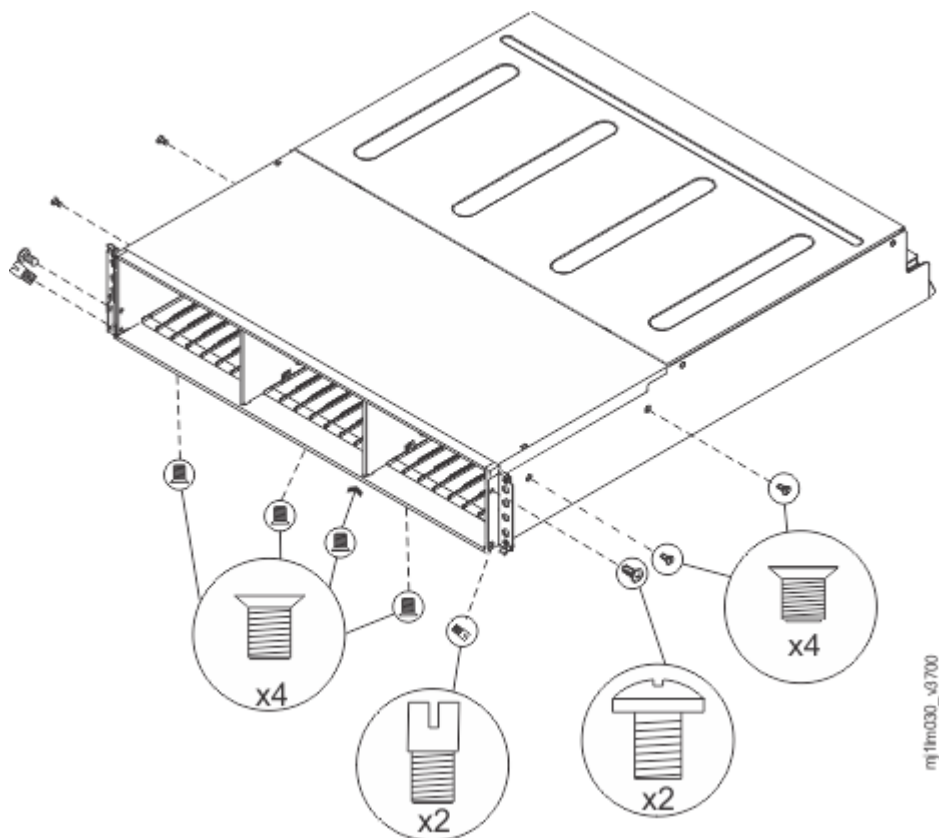

Figure 133. Removing the screws of an expansion enclosure assembly
12. Remove the four screws from the bottom of the enclosure (see Figure 133 on page 170). Remove the three screws that are near the front and the screw that is near the middle. Label these screws to indicate the location from which they are removed and place them aside.
14. Remove the three screws and one screw-pin on the right side that secure the midplane assembly to the enclosure (see Figure 133 on page 170). Label the screws to indicate the location from which they are removed and place them aside.
15. Remove the three screws and one screw-pin on the left side that secure the midplane assembly to the enclosure (see Figure 133 on page 170). Label the screws to indicate the location from which they are removed and place them aside. See Figure 4.